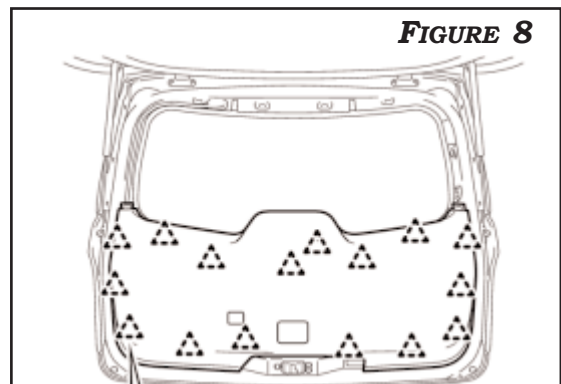

FIGURE 8
8. REMOVE THE BOLT AND ASSIST STRAP. REMOVE ALL BACK DOOR TRIM COVERS. **FIGURE 8**